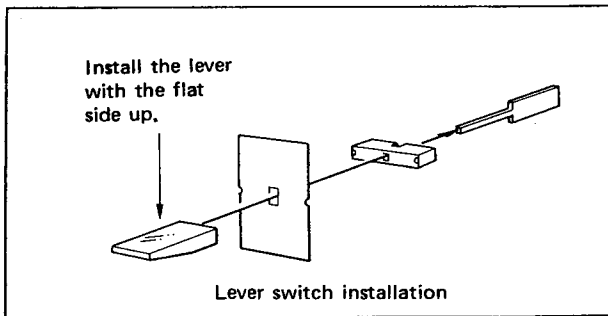

Fig. 1
- When installing switches and knobs be careful not to install them in the wrong place or upside-down. See Fig. 1.